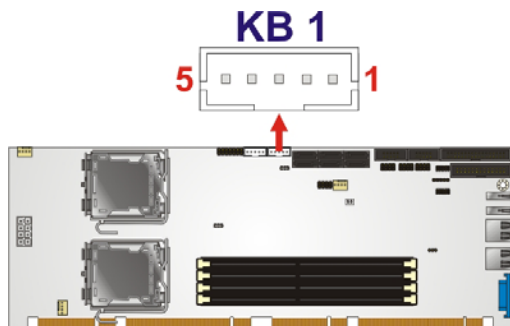

Figure 3-10: Keyboard Connector Location
CN Location:	See Figure 3-10
- CN Location:** See **Figure 3-10**